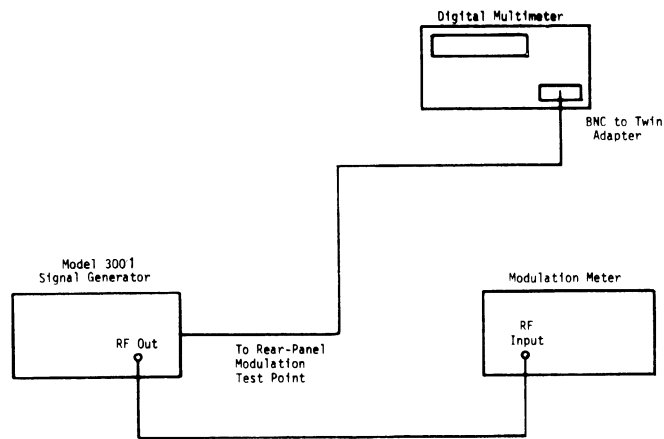

Figure 4-3. Percent AM Accuracy Setup
2. Connect the equipment as shown in Figure 4-3. Connect the center conductor of the cable between the high terminal of the digital multimeter and the modulation test point (pin 36 of rear-panel jack J101). Connect the cable shield between the low terminal of the digital multimeter and the Signal Generator ground (pin 25 of J101).